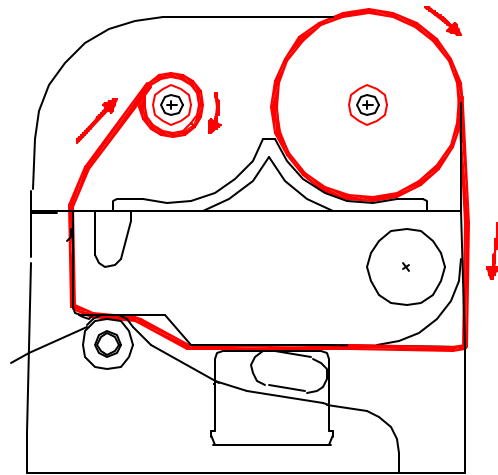

Fig. 2.2.5
8. Put back the printhead assembly and fasten it by pressing down from the top (see figure 2.2.5).